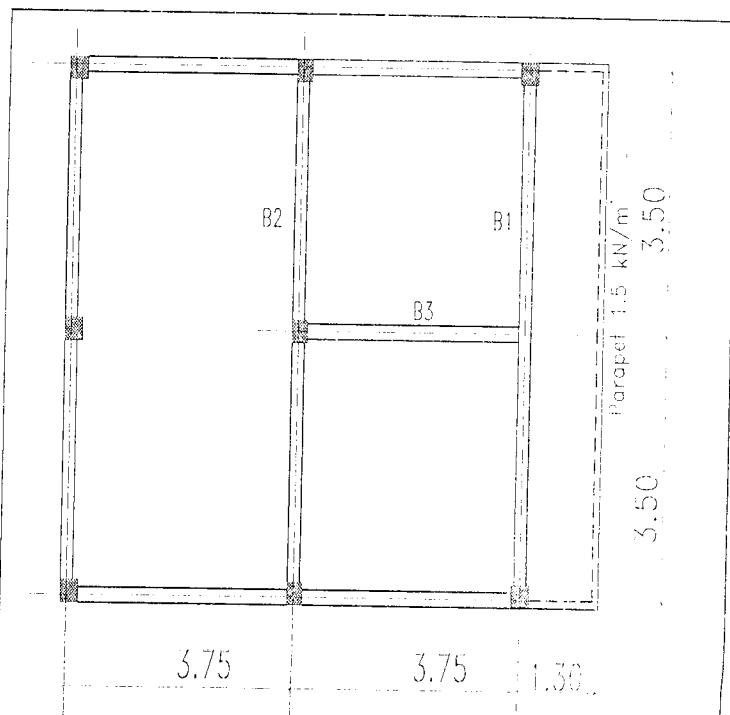

Figure1
- Design and give full detailed drawings (use scale 1:50) for the solid slabs shown in Figure 1 if the service loads are: Live load (L.L)= $4.0 \text{ kN/m}^2$  and Covering material= $2.00 \text{ kN/m}^2$ .